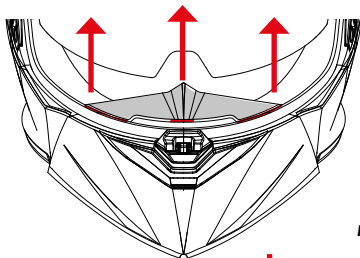

FIGURE 15
**PROTEGE - NEZ****Extraction** — Figure 15